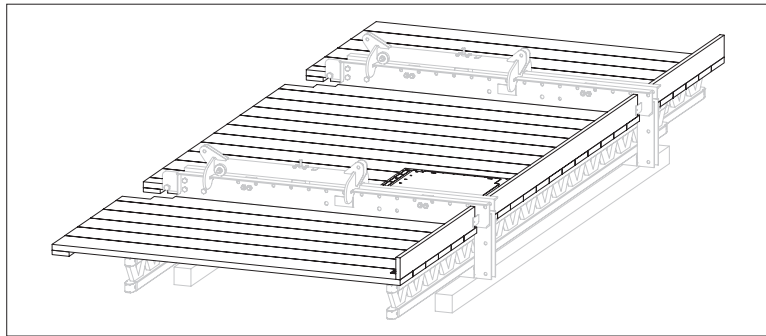

Fig. C2.03
5. Fit the toe boards with squared timber angle connectors, see Section "Toe boards" on page 42. (Fig. C2.03)
(Fig. C2.03 + C2.03a)